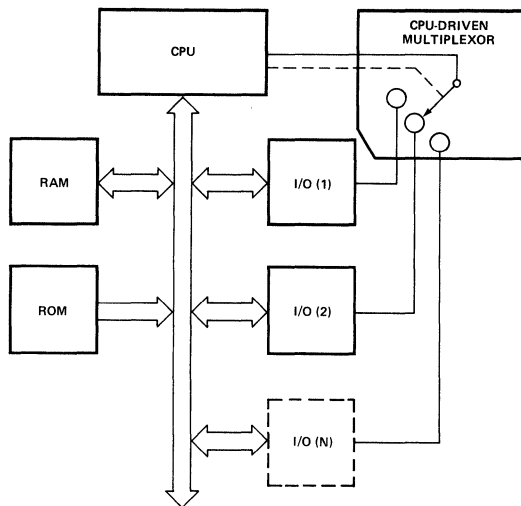

Figure 1. Polled Method
1. Initialization Command Words (ICWs): Before normal operation can begin, each 8259 in the system must be brought to a starting point — by a sequence of 2 or 3 bytes timed by WR pulses. This sequence is described in Figure 1.